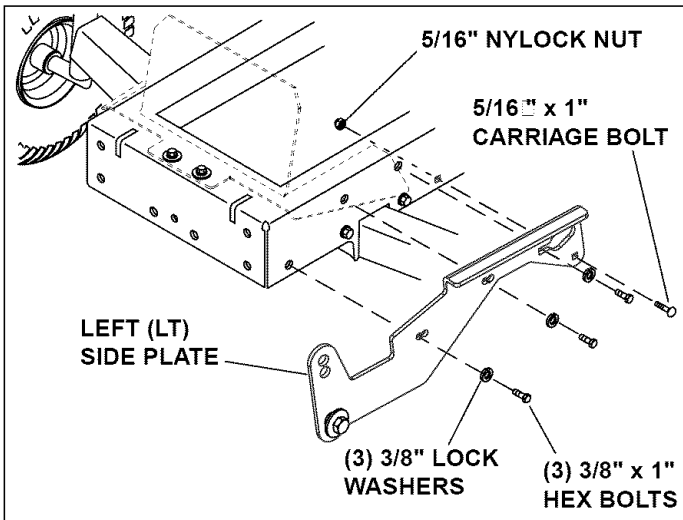

FIGURE 19
- Remove any bolts present in the mounting holes on the left side of the tractor frame. **Do not remove** bolts from right side of frame until left side plate has been installed. See figure 19.
- Install the left (LT) side plate on the tractor with the spacer to the outside. Fasten to the tractor frame using three 3/8" x 1" hex bolts and 3/8" lock washers and one 5/16" x 1" carriage bolt and 5/16" nylock nut. Tighten 3/8" bolts only until they are snug and lock washers are flattened. Repeat for the right side plate. See figure 19.